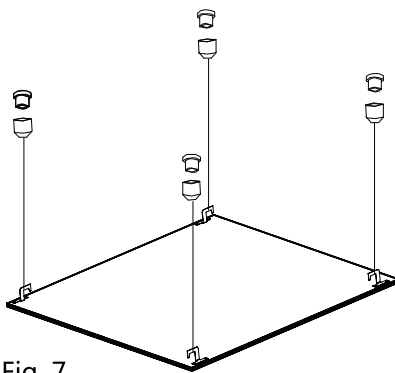

Fig. 7
3. Attach the other end of cable to the connectors mounted in the ceiling. (Fig. 7)